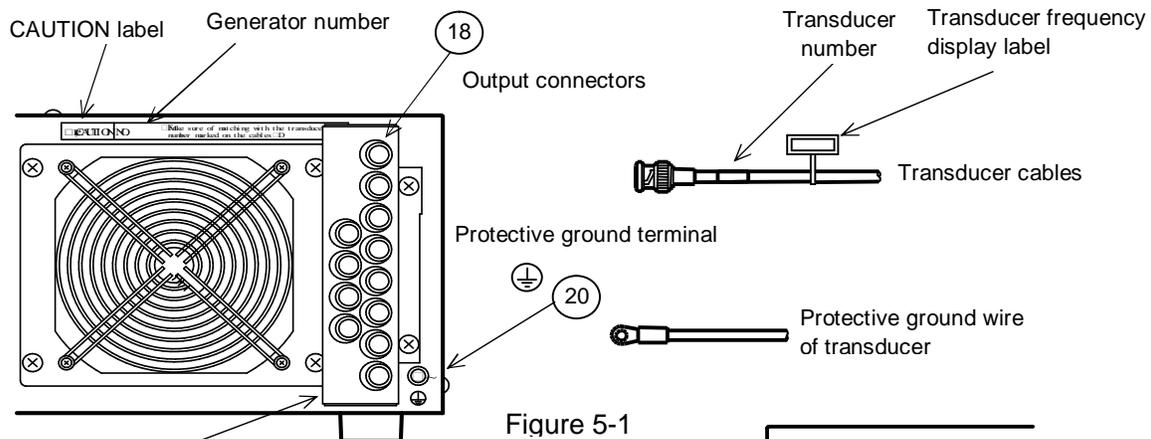

Figure 5-1
5.1 Connecting Output -: See Figure 5-1.
5.2 Connecting the Protective Ground Line - See Figures 5-1 and 5-2.